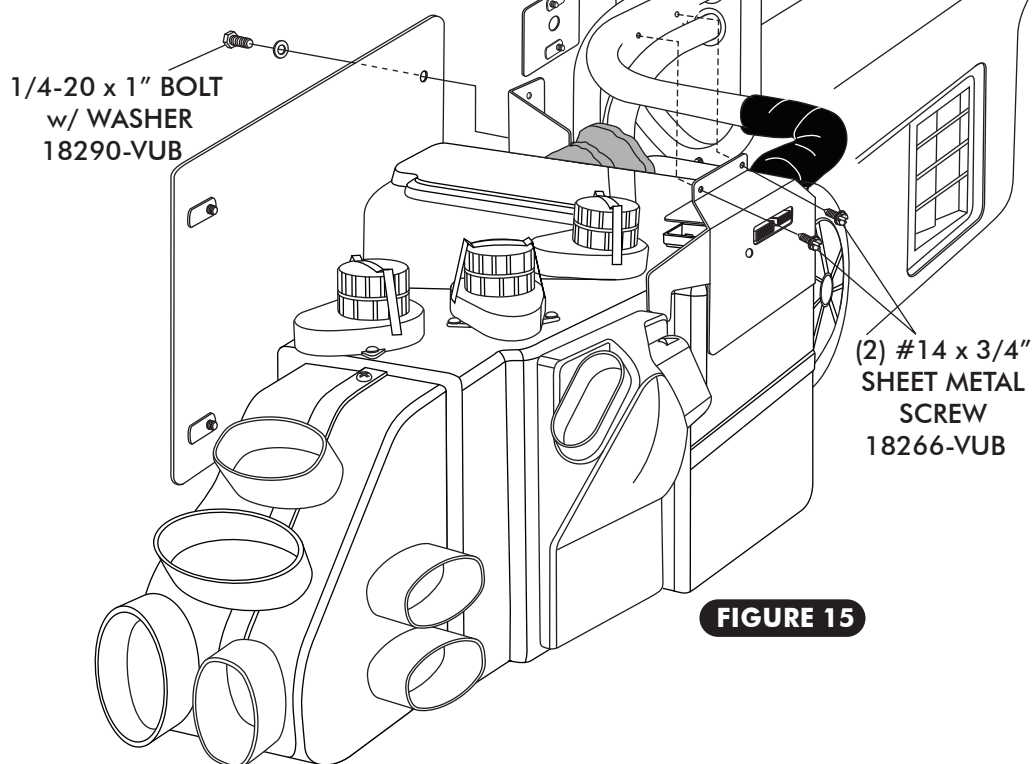

FIGURE 15
- LIFT EVAPORATOR UNIT UP UNDER THE DASHBOARD (SEE FIGURE 15, BELOW). SECURE LOOSELY TO THE FIREWALL FROM THE ENGINE COMPARTMENT SIDE USING A 1/4-20 x 1" BOLT AND WASHER (SEE FIGURE 15, BELOW).
- USING (2) #14 x 3/4" SHEET METAL SCREWS, SECURE THE FRONT EVAPORATOR MOUNTING BRACKET TO THE INNER COWL. (SEE FIGURE 15, BELOW).